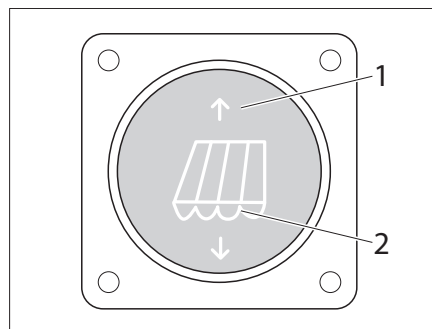
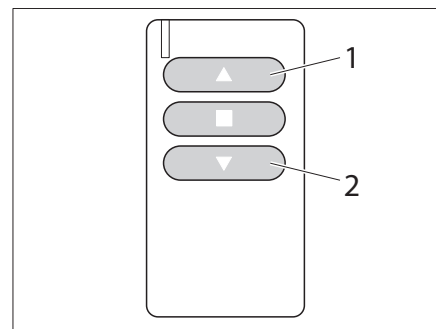

Fig. 37 Switch for electric awning
Fig. 38 Remote for electric awning
The awning is also available in an electrically powered design. It is controlled with a switch (Fig. 37) or a remote (Fig. 38).
- Press button (Fig. 37/1) or button (Fig. 38/1). The awning retracts.
- Press button (Fig. 37/2) or button (Fig. 38/2). The awning extends.